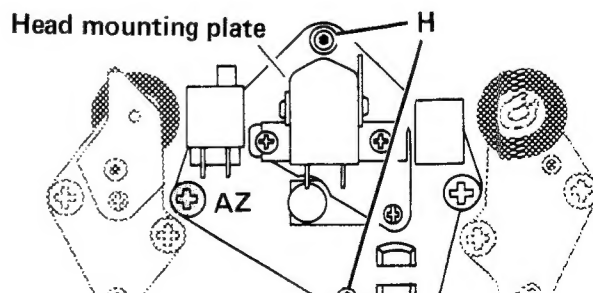

Fig. 4.12 Adjustment screws for the erase head
**Preadjustment of head mounting plate.** Adjust with the screws H and AZ shown in fig. 4.12 so that the head mounting plate is parallel to the underlying mounting plate. The gap between them should be approx. 1 mm. To check this the right chassis plate must be removed.
See also fig. 4.12 and adjust the screws H and AZ so that the top of the erase head is flush with the tool. The front of the erase head should be parallel to the front of the tool.
**Adjusting the erase head using Tandberg Test Tape No. 29.** In this case, insert the cassette and move the mounting plate inwards. If the erase head is Japanese made, adjust with the screws H and AZ as shown in fig. 4.12, so that the top of the erase head is flush with the top edge of the tape.